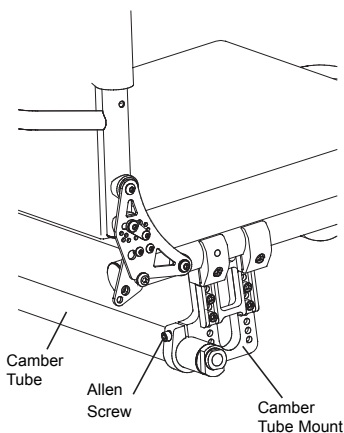

Figure 64
2. Loosen, but do not remove, the Allen Screw that secures the camber tube to each camber tube mount. See Figure 64.